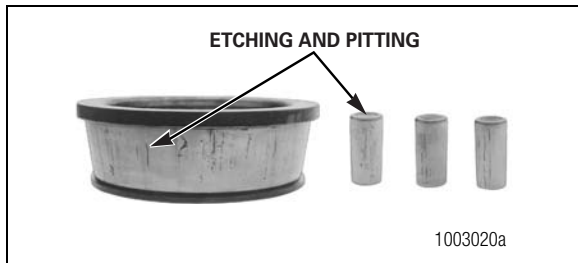

Figure 4.4
- The rollers are damaged. Figure 4.4.